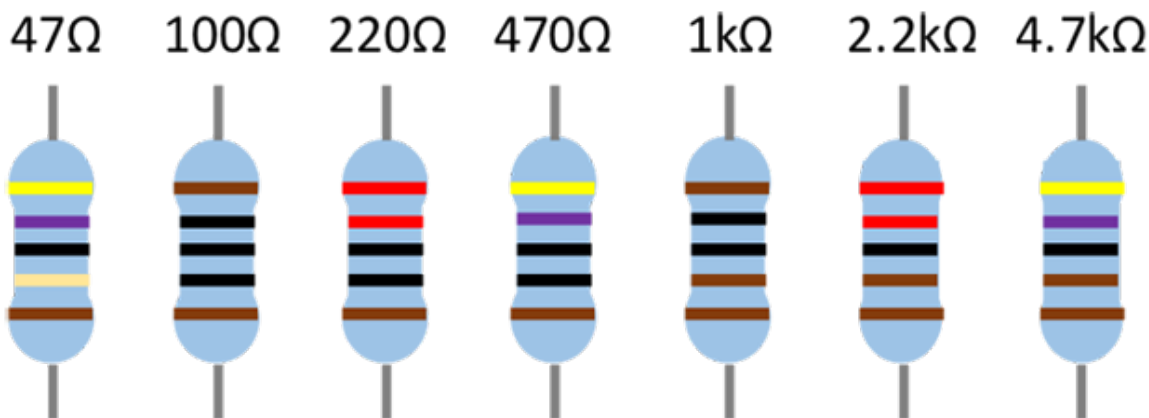

Figure 8. Use this resistor color chart to determine the resistance for each resistor.
- ii. Resistors' values are labeled using color-coded bands. Use Figure 8 to determine the resistance for each resistor.